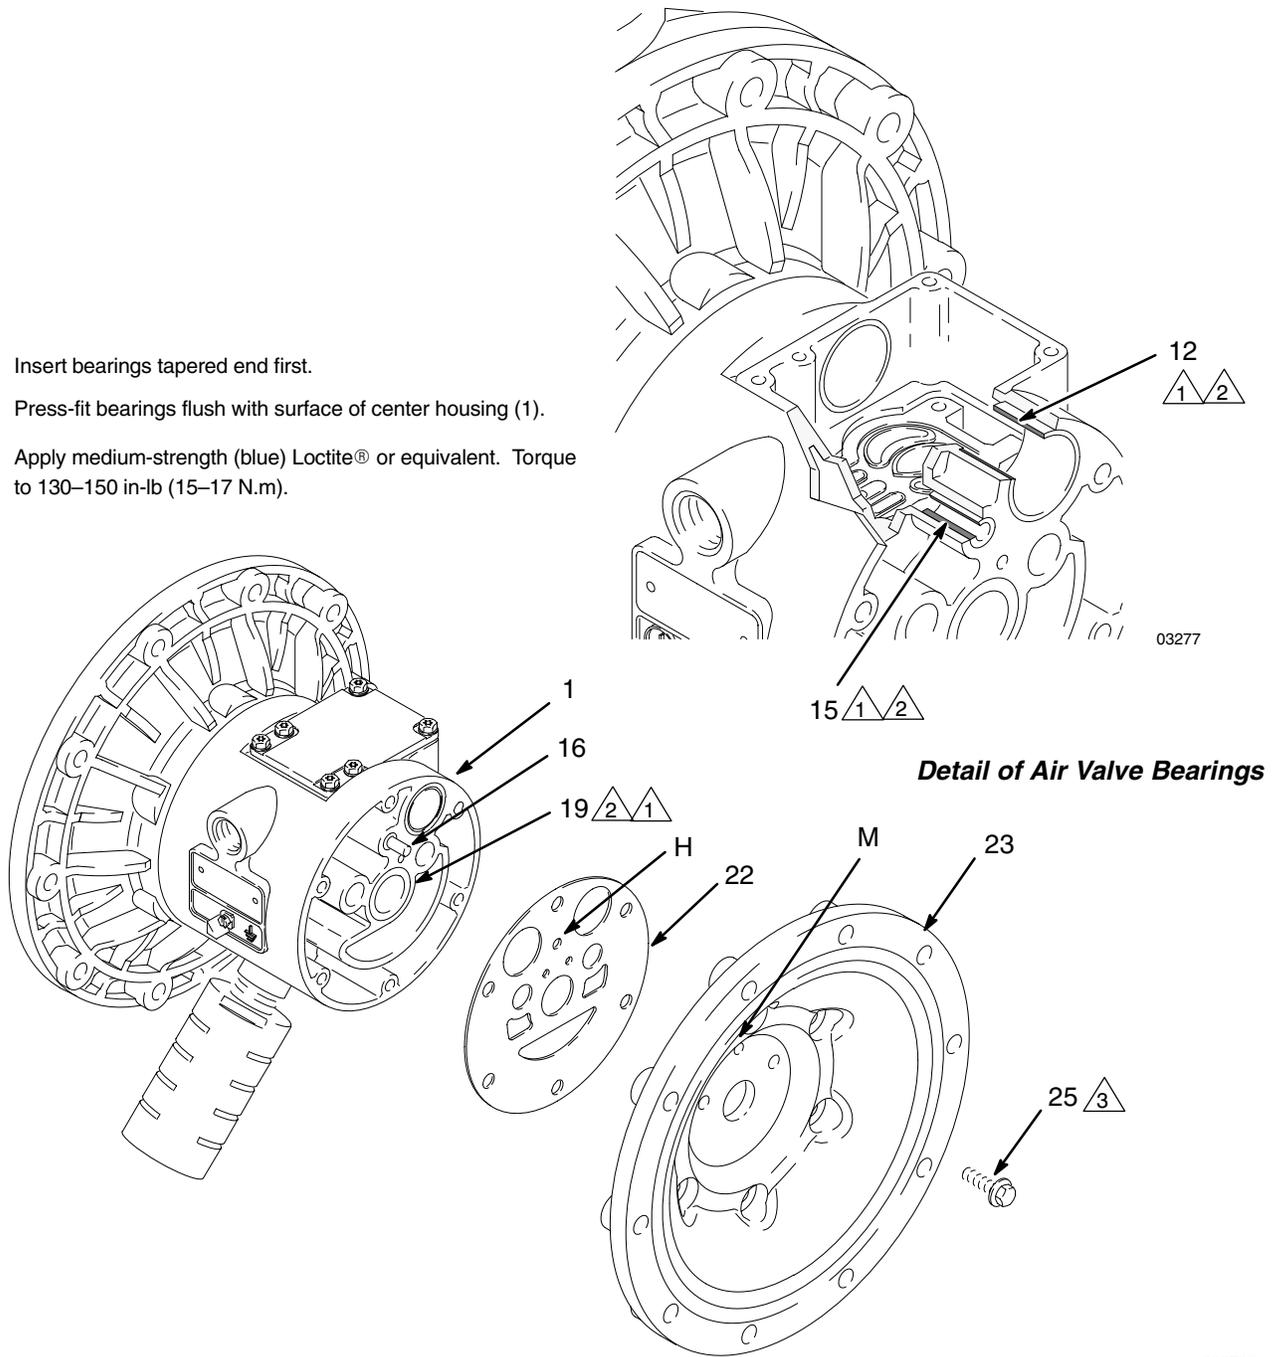

Fig. 13
- NOTE:** If you are removing only the diaphragm shaft bearing (19), skip step 4.
5. Using a 10 mm socket wrench, remove the screws (25) holding the air covers (23) to the center housing (1). See Fig. 13.
6. Remove the air cover gaskets (22). Always replace the gaskets with new ones.
7. Use a bearing puller to remove the diaphragm shaft bearings (19), air valve bearings (12) or pilot pin bearings (15). Do not remove undamaged bearings.
1. If removed, install the shaft u-cup packings (402\*) so the lips face **out** of the housing (1).
2. The bearings (12, 15, and 19) are tapered and can only be installed one way. Insert the bearings into the center housing (1), **tapered end first**. Using a press or a block and rubber mallet, press-fit the bearing so it is flush with the surface of the center housing.
4. Align the new air cover gasket (22) so the pilot pin (16) protruding from the center housing (1) fits through the proper hole (H) in the gasket.
5. Align the air cover (23) so the pilot pin (16) fits in the middle hole (M) of the three small holes near the center of the cover. Apply medium-strength (blue) Loctite® or equivalent to the threads of screws (25), and install the screws handtight. See Fig. 13. Using a 10 mm socket wrench, torque the screws oppositely and evenly to 130–150 in-lb (15–17 N.m).